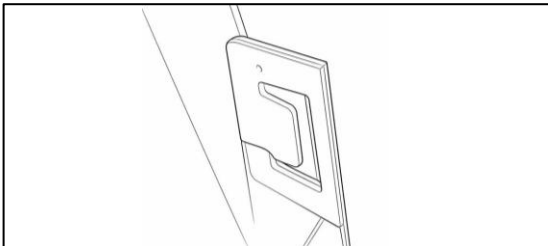

Figure 2: Grille Tab
3. ☐ Pull the grille away from the bumper, the grille has tabs in 6 locations that must be unclipped. Once the tabs have been released, the grille can be removed. **See Figure 2.**